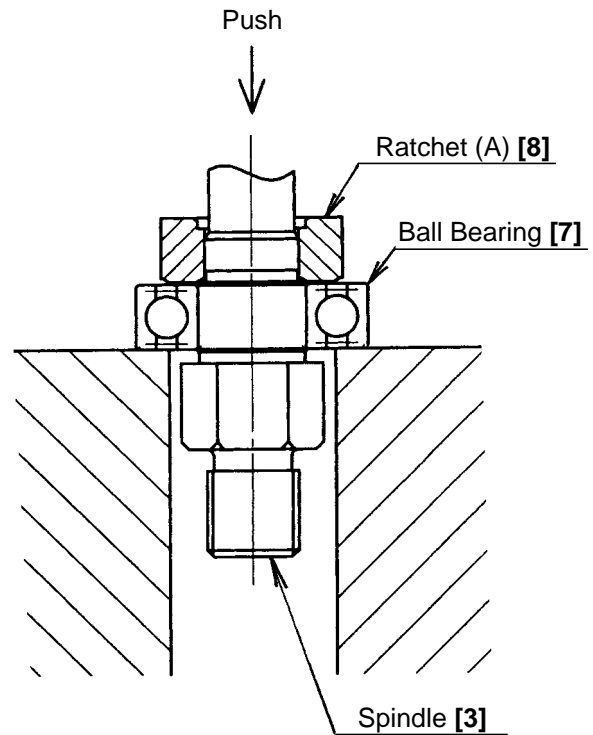

Fig. 8
(3) Removal of Ratchet (A) [8]
Remove Ratchet (A) [8] by using a jig shown in Fig. 8. Ratchet (A) [8] is securely press-fitted to the Spindle [3], so a considerable amount of force is required to remove Ratchet (A) [8]. Do not reuse the removed Ratchet (A) [8] because the press-fitting force between Ratchet (A) [8] and the Spindle [3] will be too low for proper operation.